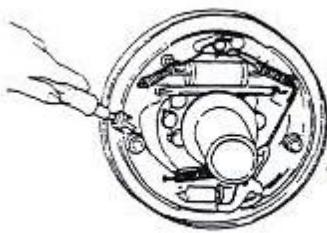

Figure3
(3) Remove the anchor spring on the main brake show, as figure 3